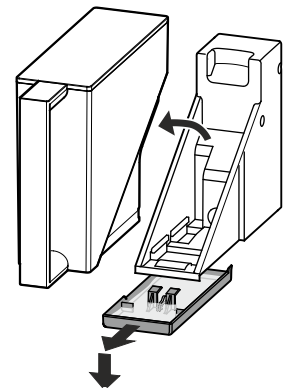

Figure 26
- To empty the water collecting tray: Remove the water tank. Carefully disengage the tray forwards and then lower for removal *Figure 26*.